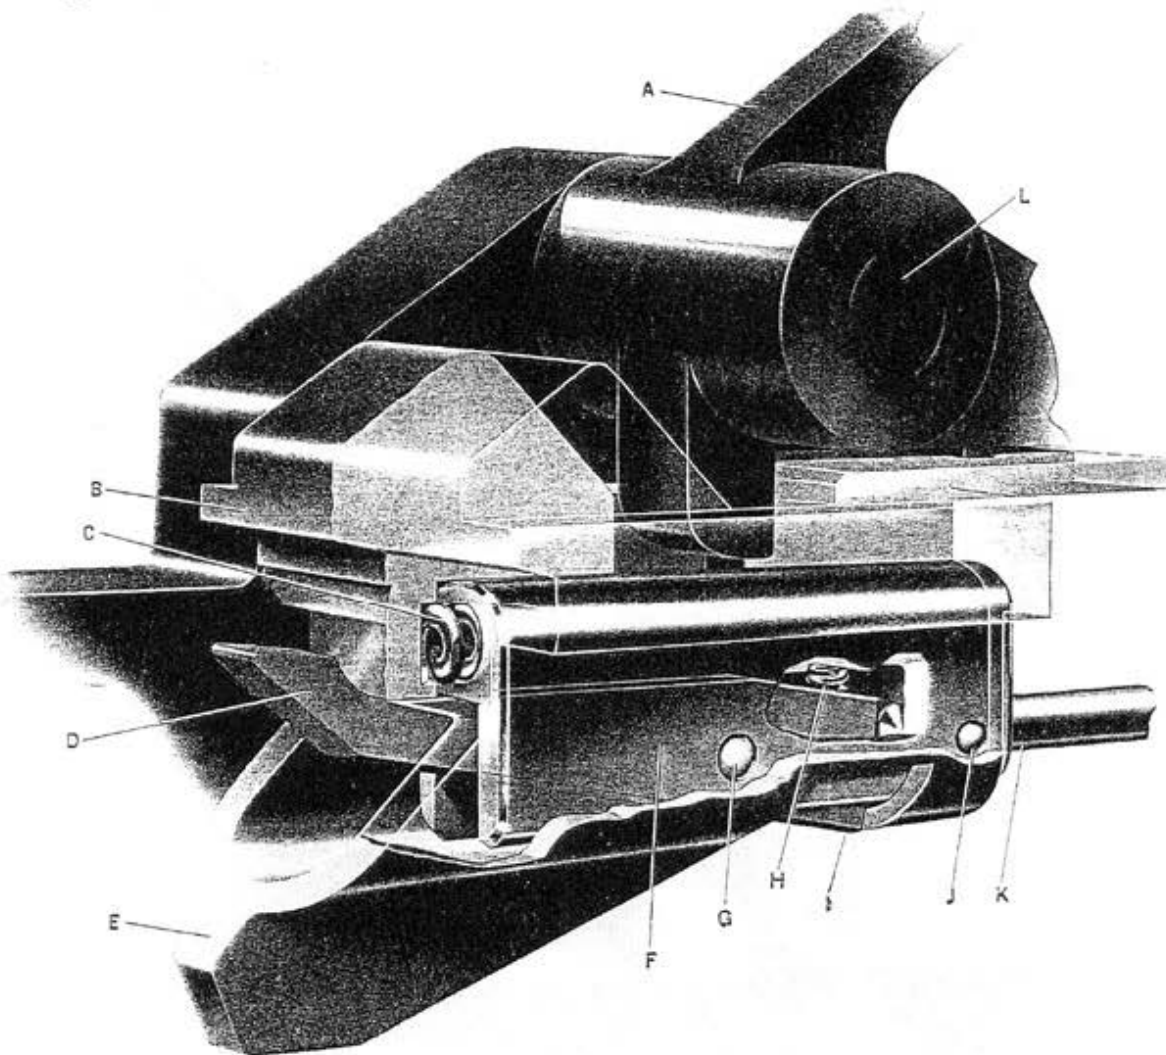

Figure 33—Magazine interlock gear in firing position
The positions of the various parts of this gear, while the gun is firing, are shown in Figure 33. The
front portion of the magazine interlock gear is shown in Figure 33. It should be noted that the interlock lever (D) is fastened by its axis bolt (G) to the interlock carrier (F) and the interlock rod (K) is also fastened to the interlock carrier (F) by pin (J). The interlock carrier spring (C) acts rearward on the carrier (F) when the lever (D) is out of its catch recess (I). The interlock lever spring (H) acts on the lever (D) tending to keep the lever in its catch recess (I) and the front end upward.